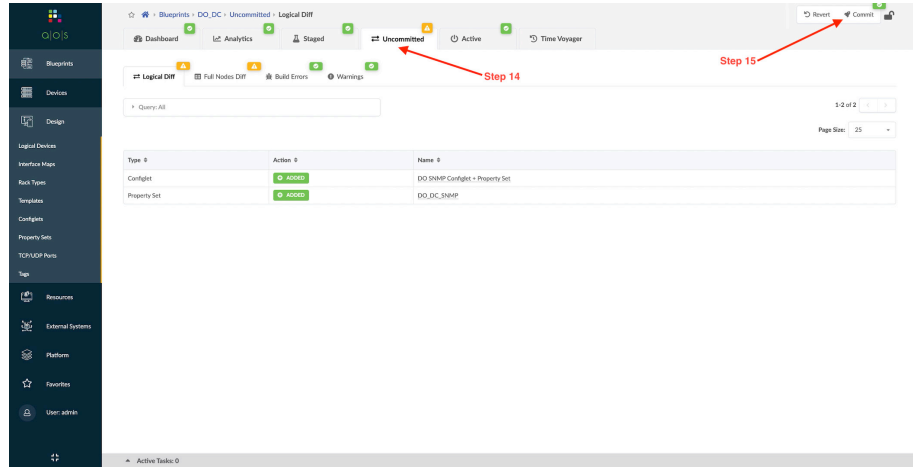

Figure 7.25 Committing Staged Configuration
Step 13: Go to Uncommitted. The configuration to be added can be viewed here. See Figure 7.25.